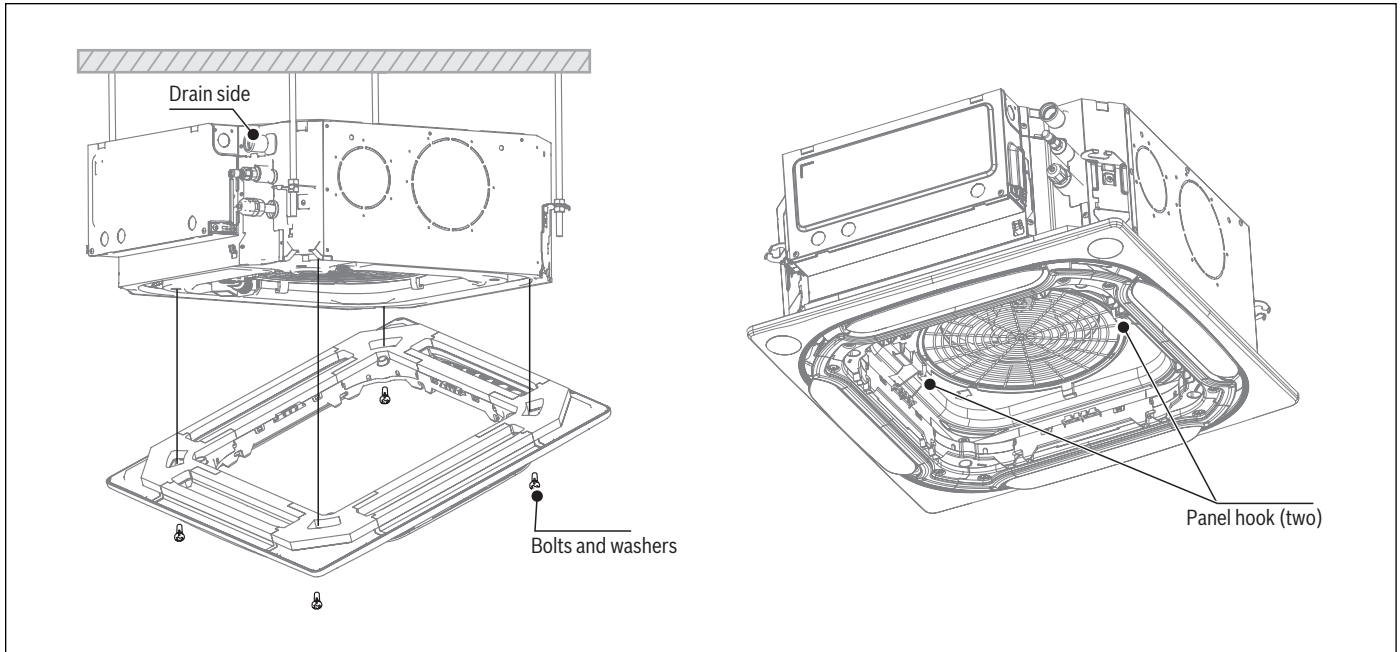

Figure 85
- a. Install the panel on the indoor unit by lightly tightening the included M5x20 screws (see Figure 85).